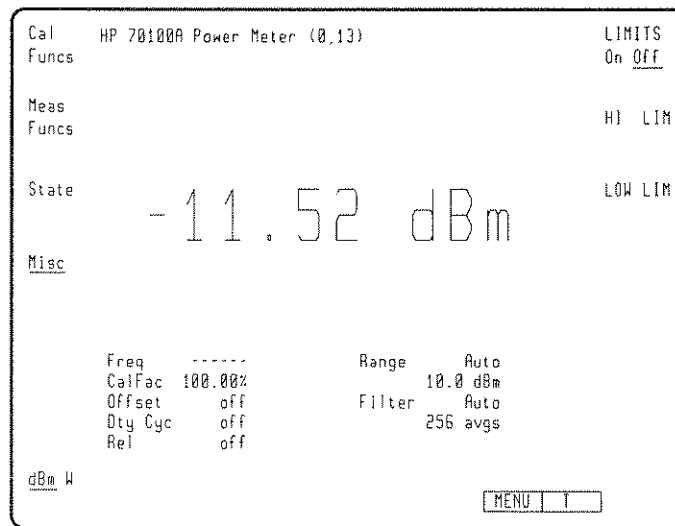

Figure 6-19. Limits Menu
limits accesses another menu, see Figure 6-19, that is used to set the upper and lower limits of the Power Meter.
1. Press **LIMITS**. The menu will be as shown in Figure 6-19.